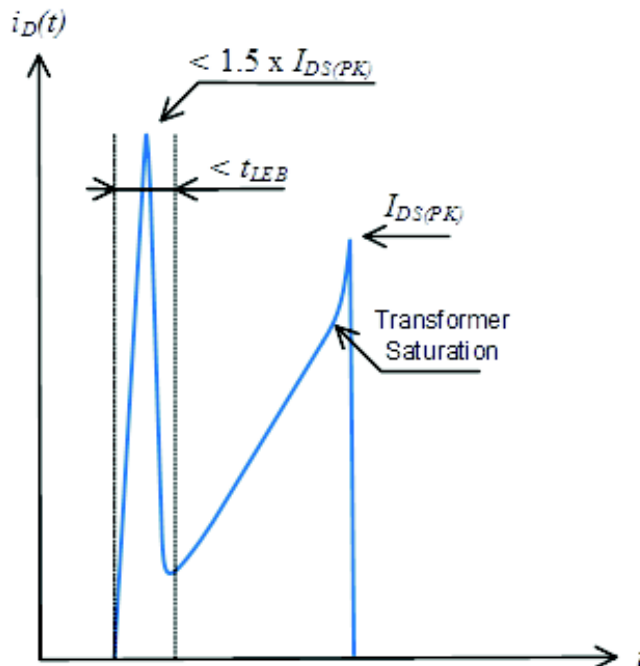

Figure 3. Spike Limits
2. Maximum drain current $I_{DS(PK)}$ is obtained when the transformer saturates. It should not be mixed with short pulses that can be seen at turn on. Figure 3 below provides spike limits the device can tolerate.